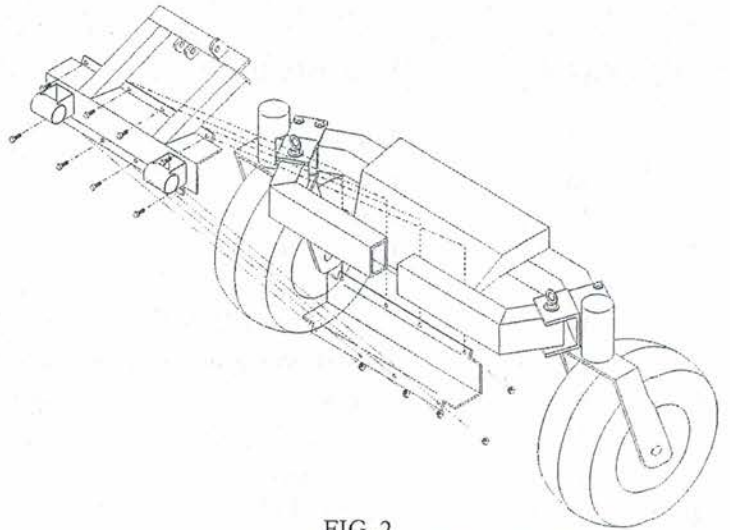

FIG. 2
3. Orient half brackets around crosstubes as illustrated and bolt together two halves using eight $\frac{5}{16}$ " x 1" bolts and whizlock nuts. Once again, do not tighten only snug bolts at this time. **FIG. 2**